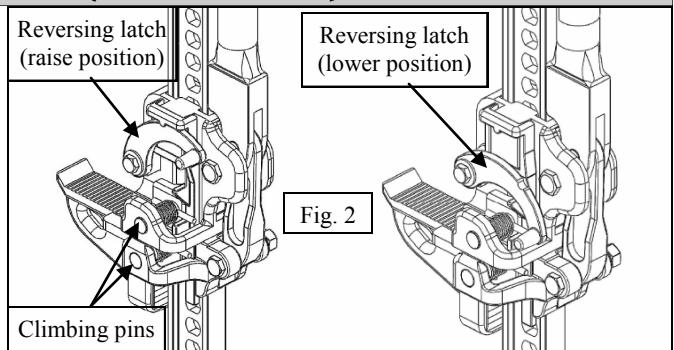

Fig. 2
3. With handle vertical and clipped to steel bar frame, pull the reversing latch into the raise position until it locks. (see Fig. 2 on next page)
4. Shift the reversing latch to the lower position. (see Fig. 2)